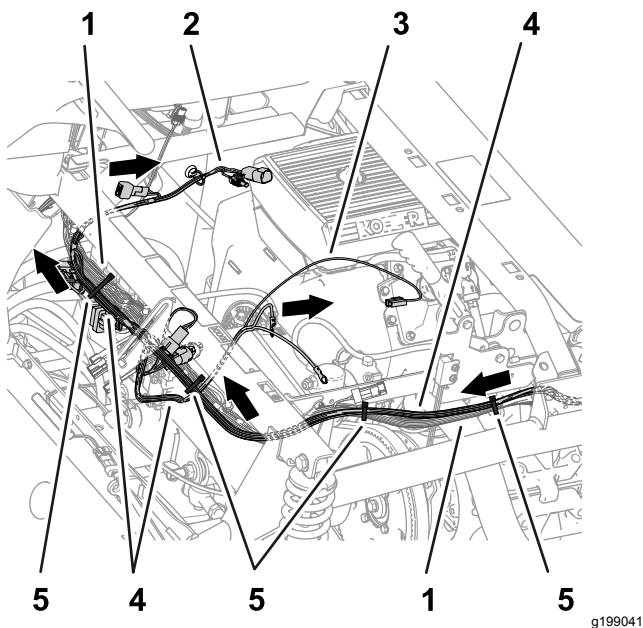

Figure 84
5. Route the 84 cm (33 inch), 60 cm (23-1/2 inch), and 66 cm (26 inch) wire-harness branches of the kit wire harness across the shock-support tube as shown in Figure 84.
6. Secure the kit wire harness to the machine wire harness as shown in Figure 82, Figure 83, and Figure 84.